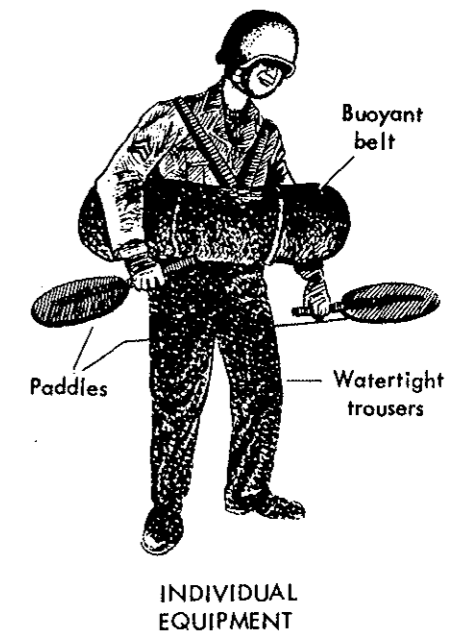

Figure 73.
1. Individual equipment (fig. 73) is that worn or used by soldiers to give them buoyancy while crossing deep-water obstacles, primarily when on reconnaissance missions. The equipment consists usually of watertight trousers and a pneumatic or stuffed buoyant belt. Propulsion is by paddles or the paddling action of arms and hands.